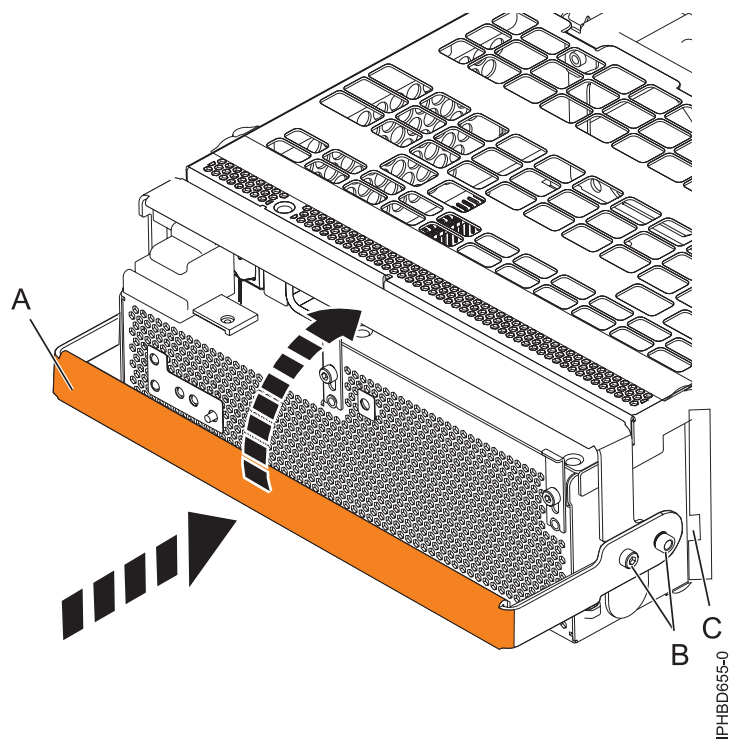

Figure 78. Replacing a power supply
11. To replace the power supply, with the locking handle (A) in the open position, push the power supply into the expansion unit as shown in Figure 78 on page 113.
12. Close the locking handle (A) until the power supply locks into position.